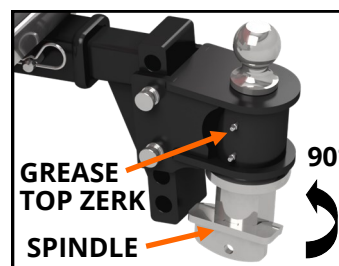
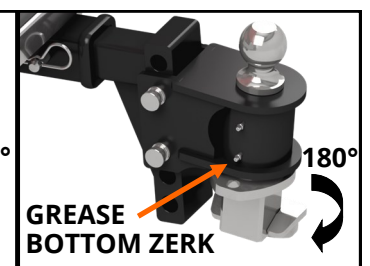

FIGURE F1
FIGURE F2
1. **Apply grease to the two grease Zerks.** Rotate the spindle 90° toward the passenger side. Add grease into the top grease Zerk fitting, **see Figure F1**. Rotate the spindle 180° toward the driver side. Add grease to the bottom grease Zerk fitting, **see Figure F2**. Add grease to the bottom Zerk until a small bead of grease purges from the area between the head unit and the spindle. Spin the spindle all the way around a couple of times after greasing.